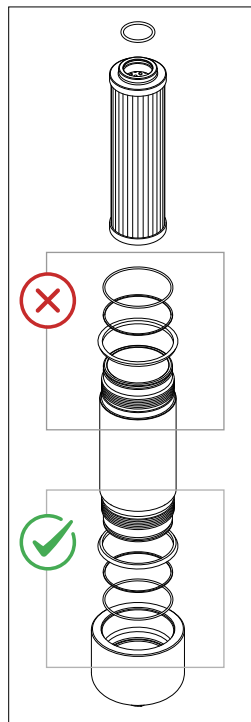

fig. 28
- (Fig. 28) Fit #1 the bowl cover seal, #2: the anti-extrusion ring and #3: the O-ring in the bowl groove, insert the O-ring in the filter element cap